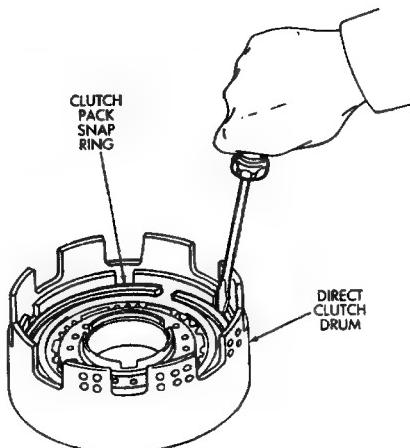

Fig. 6 Removing Clutch Pack Snap Ring
(7) Piston stroke length should be 1.37 mm to 1.60 mm (.0539 to .0642 in.). If stroke length is incorrect, either the clutch pack retainer or clutch discs will have to be replaced.
(8) Compress clutch springs with tool B.Vi. FM. 27. Remove clutch pack snap ring and remove retainer and clutch pack from drum (Fig. 6).